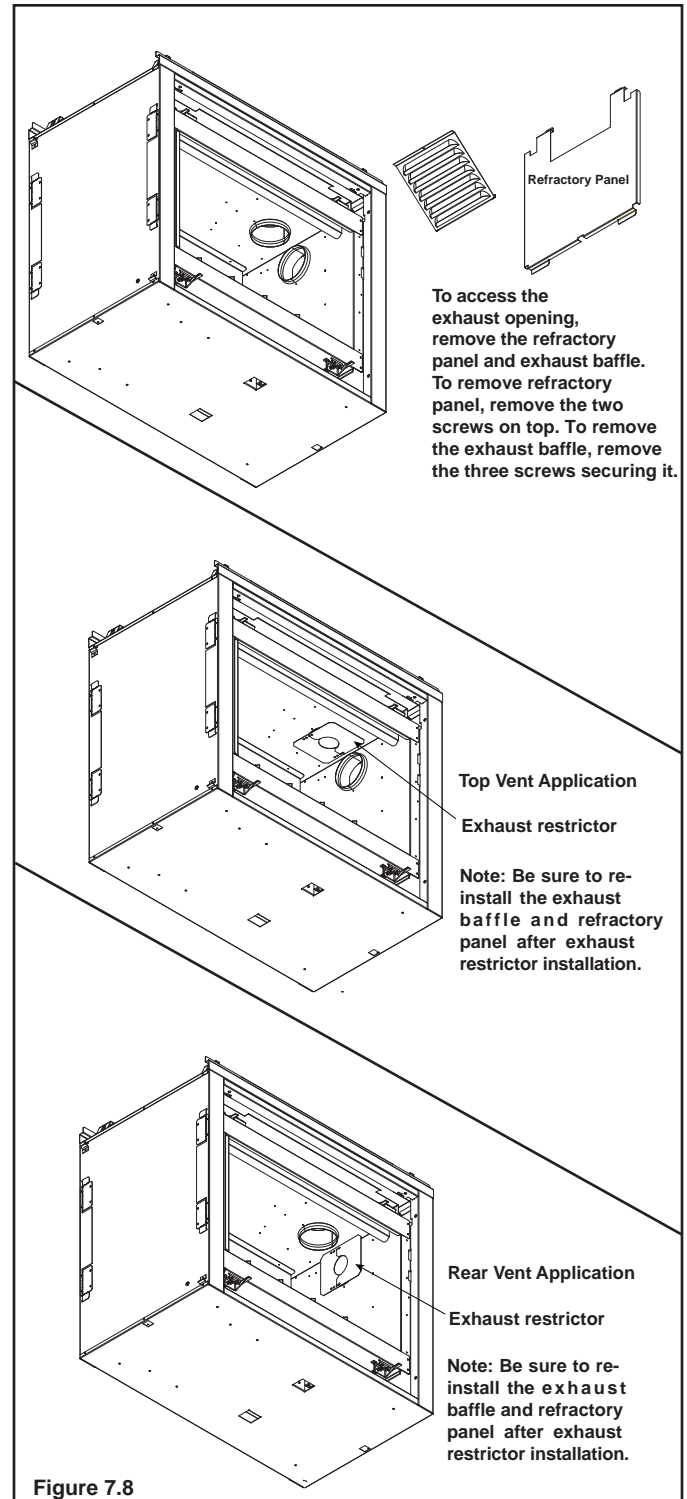

Figure 7.8
1. Remove refractory panel and exhaust baffle from pilot side of appliance. Use a 1/4 inch nut driver and remove the two screws that secure it in place. To remove the exhaust baffle, remove the three screws securing the refractory panel in place. See Figure 7.8.